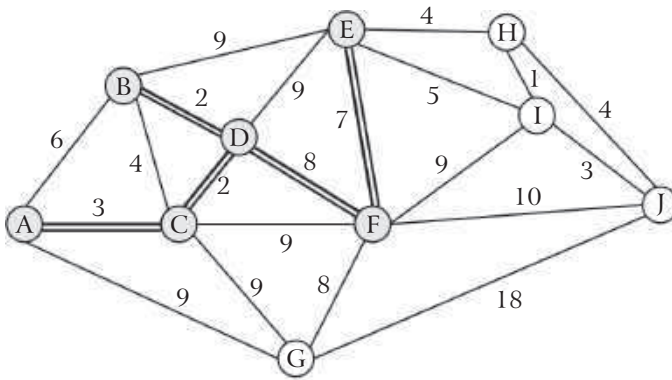

Fig. 8.11
Step 5: The node $\textcircled{E}$ of set $\bar{C}$ is nearest to the node $\textcircled{F}$ of set C . So we choose this node $\textcircled{E}$ and transfer it from the set $\bar{C}$ to the set C and choose the branch joining these two nodes $\textcircled{E}$ and $\textcircled{F}$ for M.S.T. . These are shown in fig. 8.11.